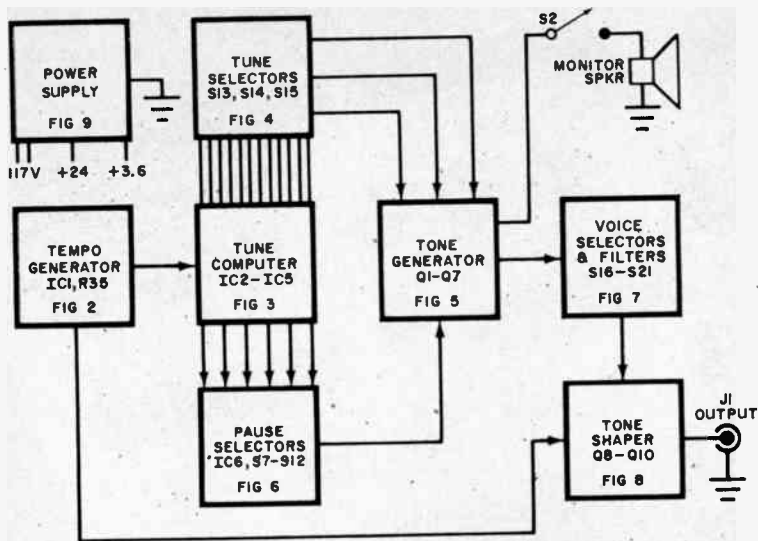

Fig. 1. The overall block diagram shows the signal flow for the system. Note that voicing filters and tone shaper are not linked to the monitor speaker
**General Circuit Operation.** The Psych-Tone consists of seven operational blocks and a power supply as shown in Fig. 1. The tempo generator determines the reference beat (or clock) for the tune computer, which cycles through 63 different states in step with the clock pulse. The three tune selector switches convert the initial 63-note sequence into any one of 1728 different combinations. The tune computer also drives a pause selector circuit that decides when pauses are to be produced instead of tones. The selected sequence of notes and pauses then goes to a tone generator where it is converted into audio tones.